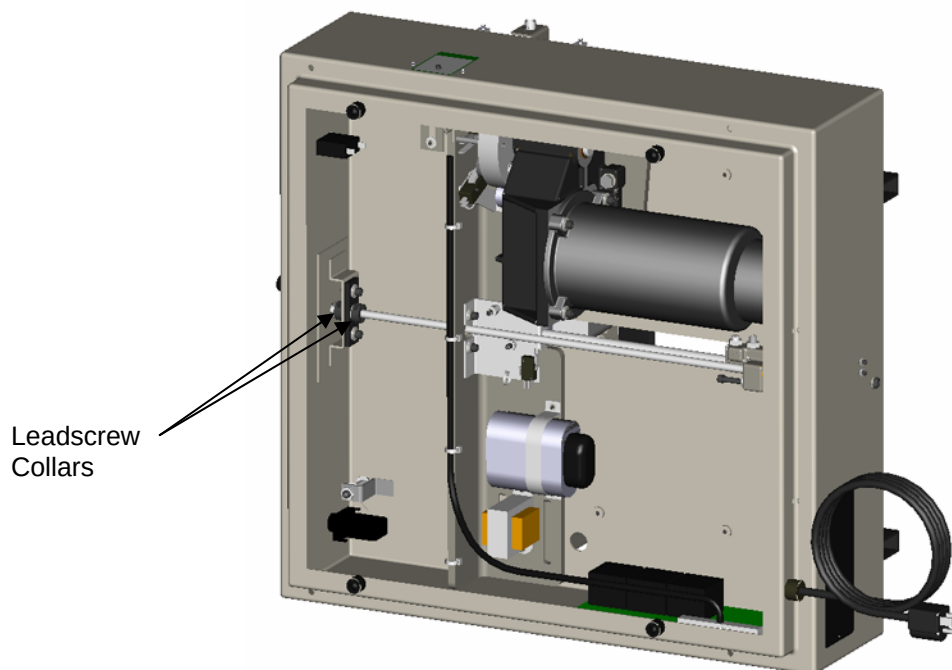

Figure 13
3. Loosen the two screws attached to each collar (Figure 13).